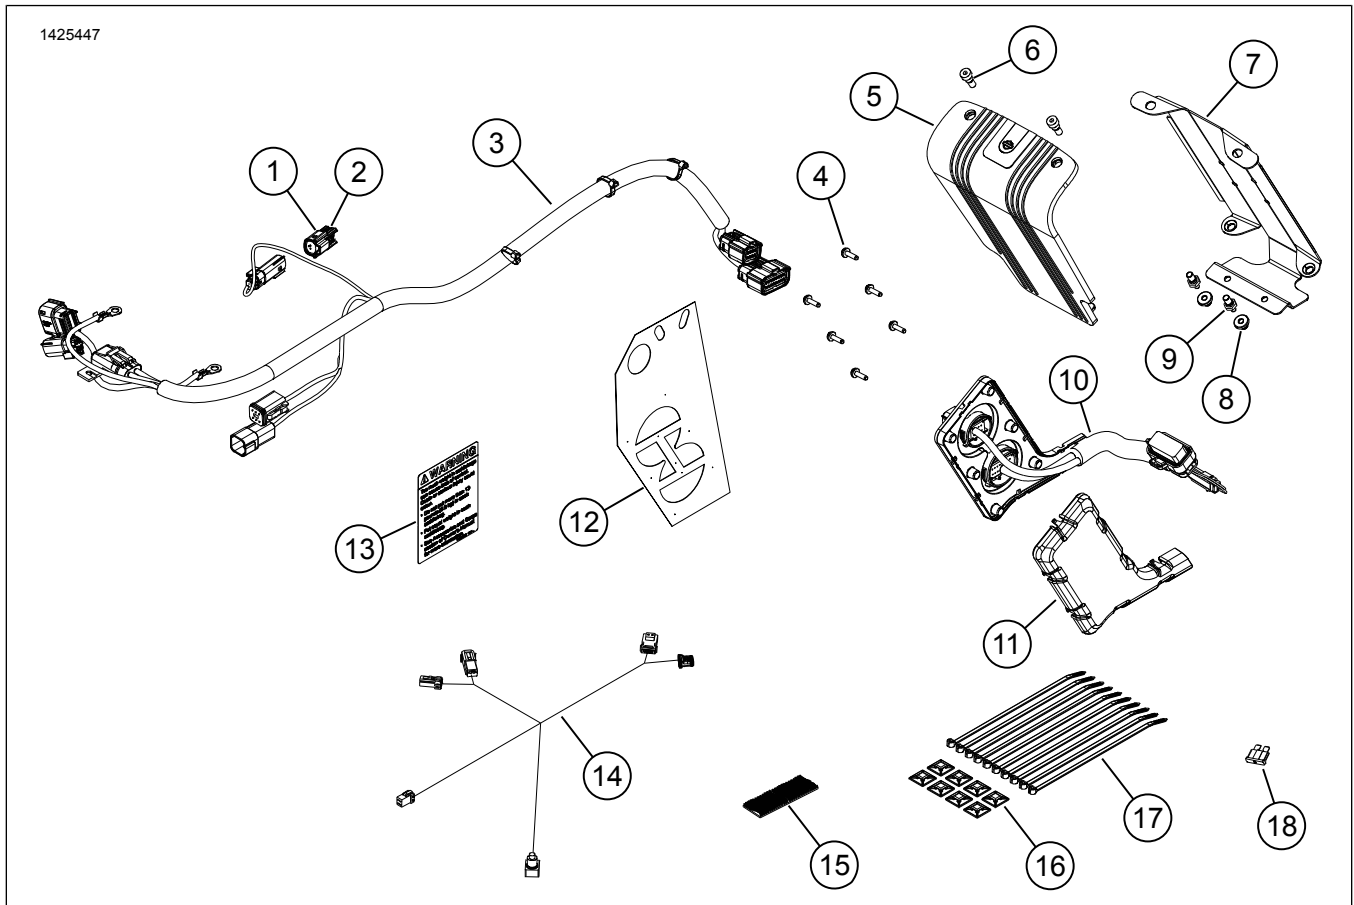

Figure 1. Service Parts: Primary Amplifier Kit
3. See Figure 1. Install saddlebag capacity label (13).